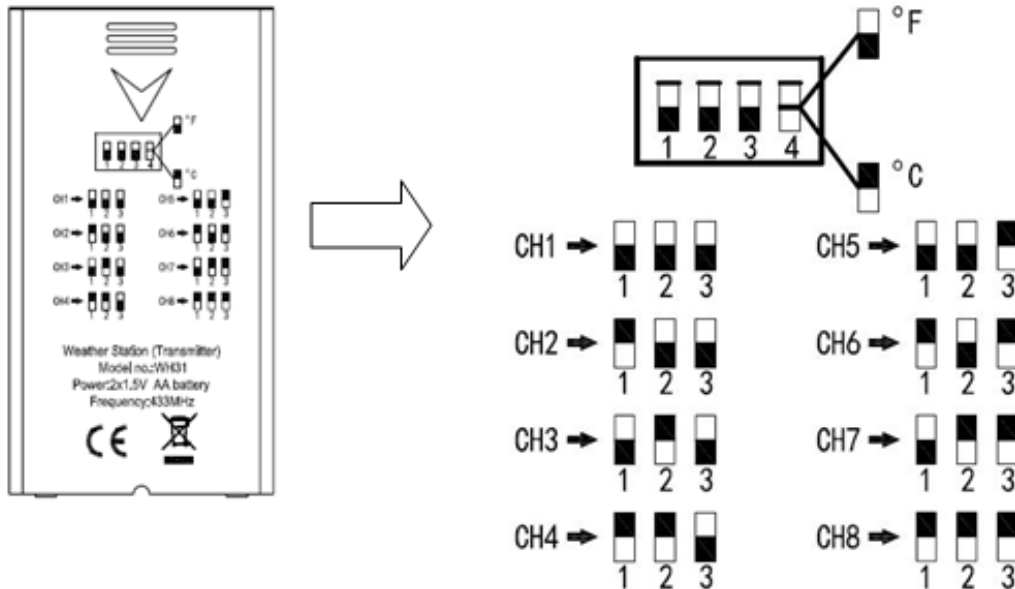

Figure 18
default is Channel 1), change Dip Switches 1, 2 and 3, as referenced in Figure 18.
4. **Temperature Units of Measure:** To change the transmitter display units of measure (°F vs. °C), change Dip Switch 4, as referenced in Figure 18.